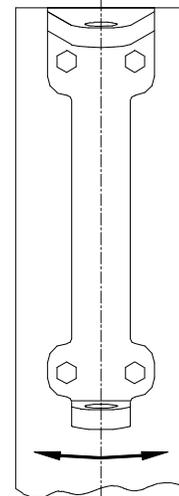

FIG. 6
- c. If panel does not close in line, loosen bottom bolts of hinge bracket assembly (Figure 6).